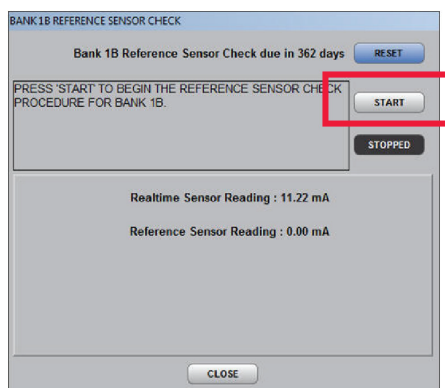

Figure 2 Reference Sensor Check
3. Press START (Figure 2) → The BCB will increase bank power to 100% and wait for the Realtime Sensor Reading to stabilize.